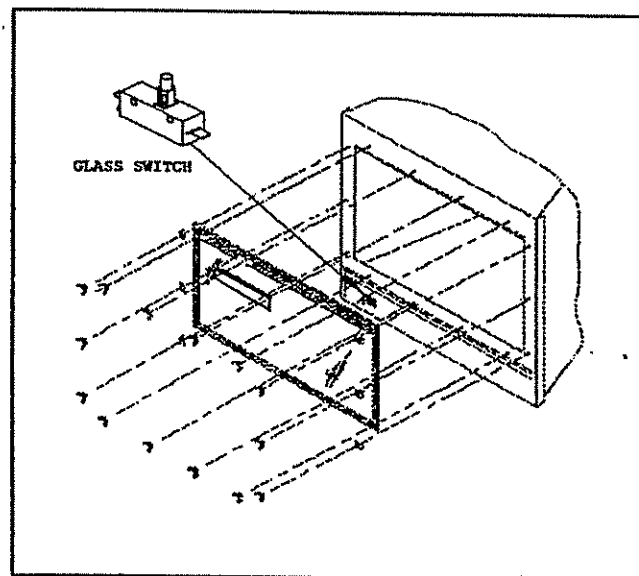

Fig. 33. Installation of glass panel.
4. Attach the brackets at the top and bottom of the glass and hand tighten. (See Fig. 33.)